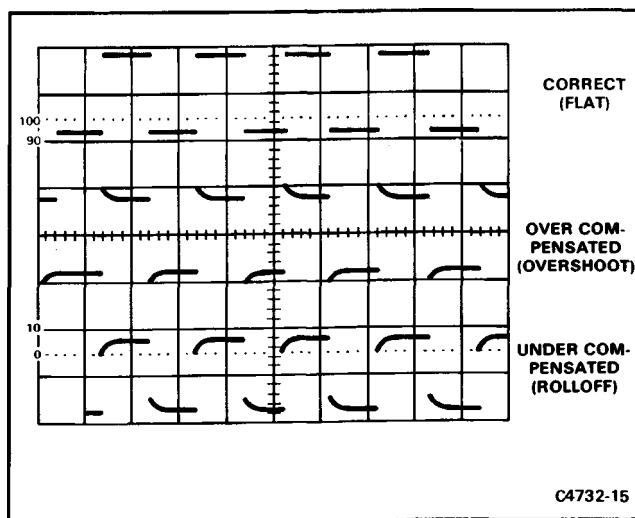

Figure 3-2. Probe compensation.
7. Check the waveform presentation for overshoot and rolloff (see Figure 3-2). If necessary, adjust the probe compensation for flat tops on the waveforms. Refer to the instructions supplied with the probe for details of compensation adjustment.